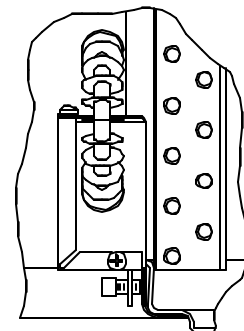

FIGURE 6
1. Position the heater assembly into the return air opening as shown in Figure 6. Insure that the set screw is retracted sufficiently to allow installation over the basepan extrusion (See Figure 6.)
2. Position ceiling plenum into the ceiling opening. For proper orientation of the ceiling plenum, reference Figure 6.
5. Measure how far the divider plate extends above the ceiling plenum electrical box. Using this measurement trim the adhesive backed foam insulation pad (provided with this package) to this measurement. Peel off the adhesive backing and apply the insulation pad to the raised divider plate. The insulation pad is longer than the roof opening (See Figure 6).